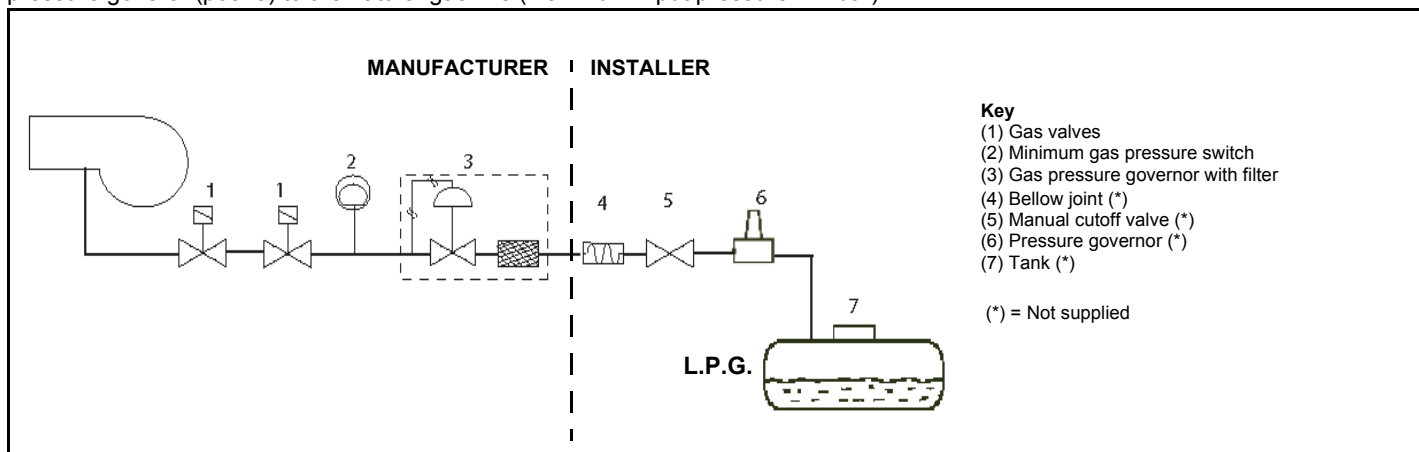

Fig. 8
**ATTENTION:** once the gas train is mounted according to the diagram on Fig. 8, the gas proving test must be performed, according to the procedure set by the laws in force.